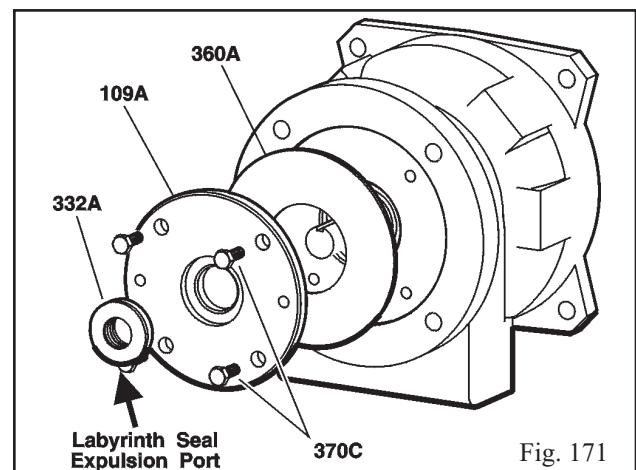

Fig. 171
20. Install bearing end cover gasket (360A) and bearing end cover (109A) with hex cap screws (370C) (Fig. 171).